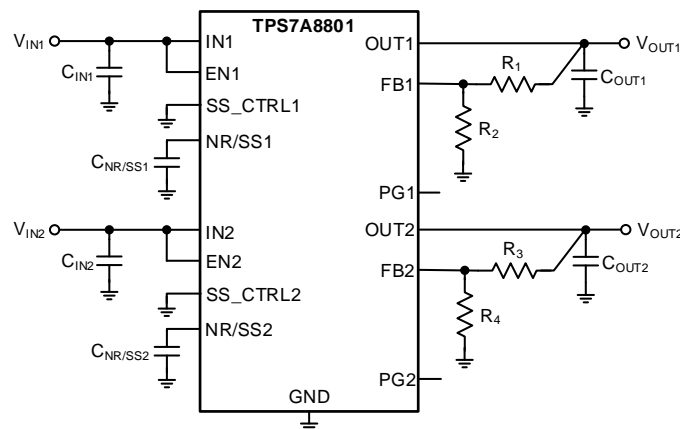

图 42. Adjustable Operation
The output voltages of the TPS7A8801 can be adjusted from 0.8 V to 5.0 V by using resistor divider networks as shown in 图 42.
(1) R_1, R_3 are connected from OUTx to FBx; R_2, R_4 are connected from FBx to GND; see 图 42.